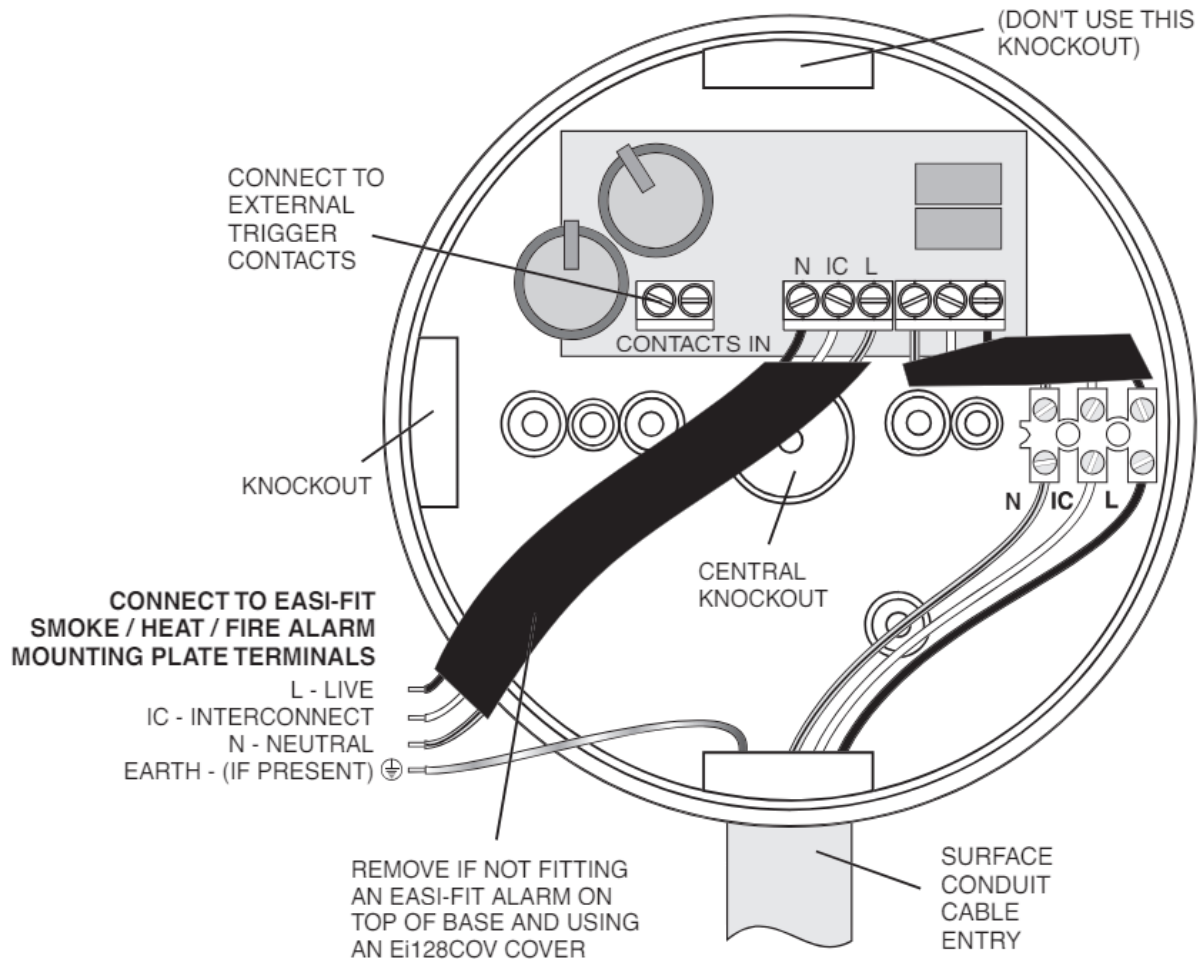
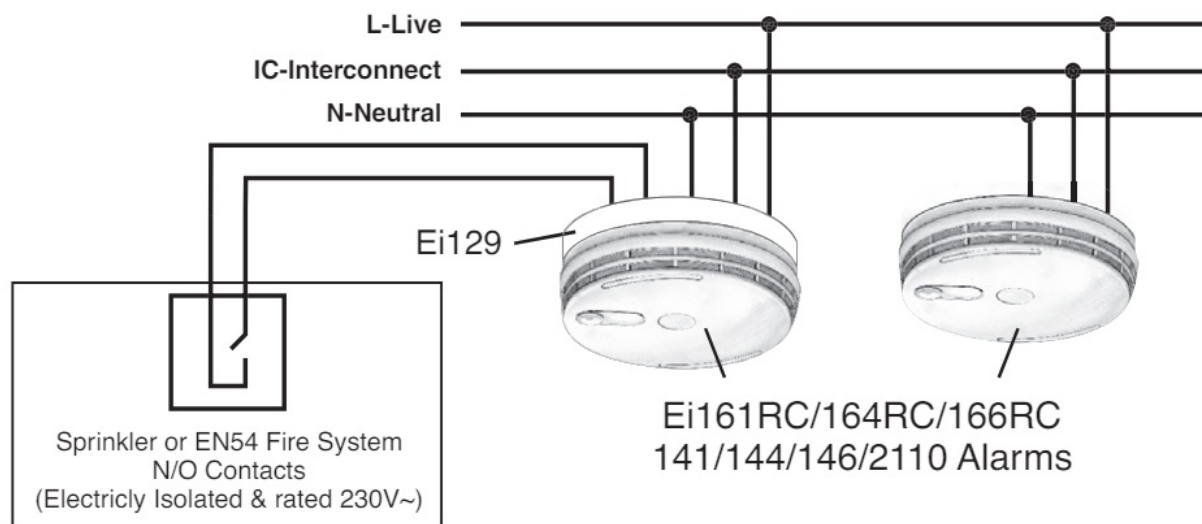

Figure 1- Ei129 Model
Figure 2
3. Screw the Ei129 Module to the ceiling after first removing the required knockout and bring the house wires through it (see Figure 1). If the central rear knockout is being used, seal around the wires with silicone or similar to prevent air draughts affecting the smoke or heat entering the alarm.
4. Connect the wires from the alarms (L – Live, N – Neutral, and IC – Interconnect) to the terminal block on the Ei129 Module as shown in Figure 1. Make the wiring connections as shown in Figure 2.
2. Connect the wires from the alarms (L – Live, N – Neutral, and IC – Interconnect) to the terminal block on the Ei129 Module as shown in Figure 1. Then connect the two wires from the external N/O contacts to the “CONTACTS IN “ terminals.
3. Important: Now remove the three short, sleeved wires from the central terminal block on the circuit board on the Ei129 as they are now not needed (see figure 1). This is essential to prevent them shorting and damaging the alarms or blowing fuses.